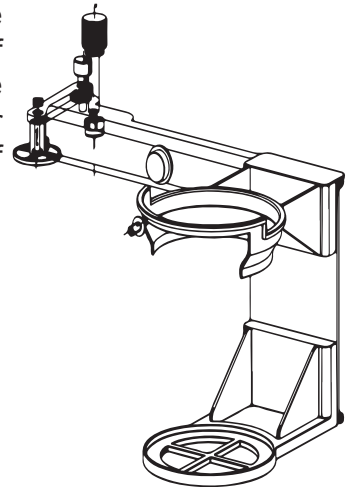

Figure 35
3.4.7 Cup holder (see figure 35)
The cup holder (see figure 35) is installed on the rotating joint of the mechanical arm. After the drink has been selected, the cup falls into the cup holder and then sugar and spoon fall into the cup. After this the cup holder moves the cup into the vending machine's body for safe preparation of drink.